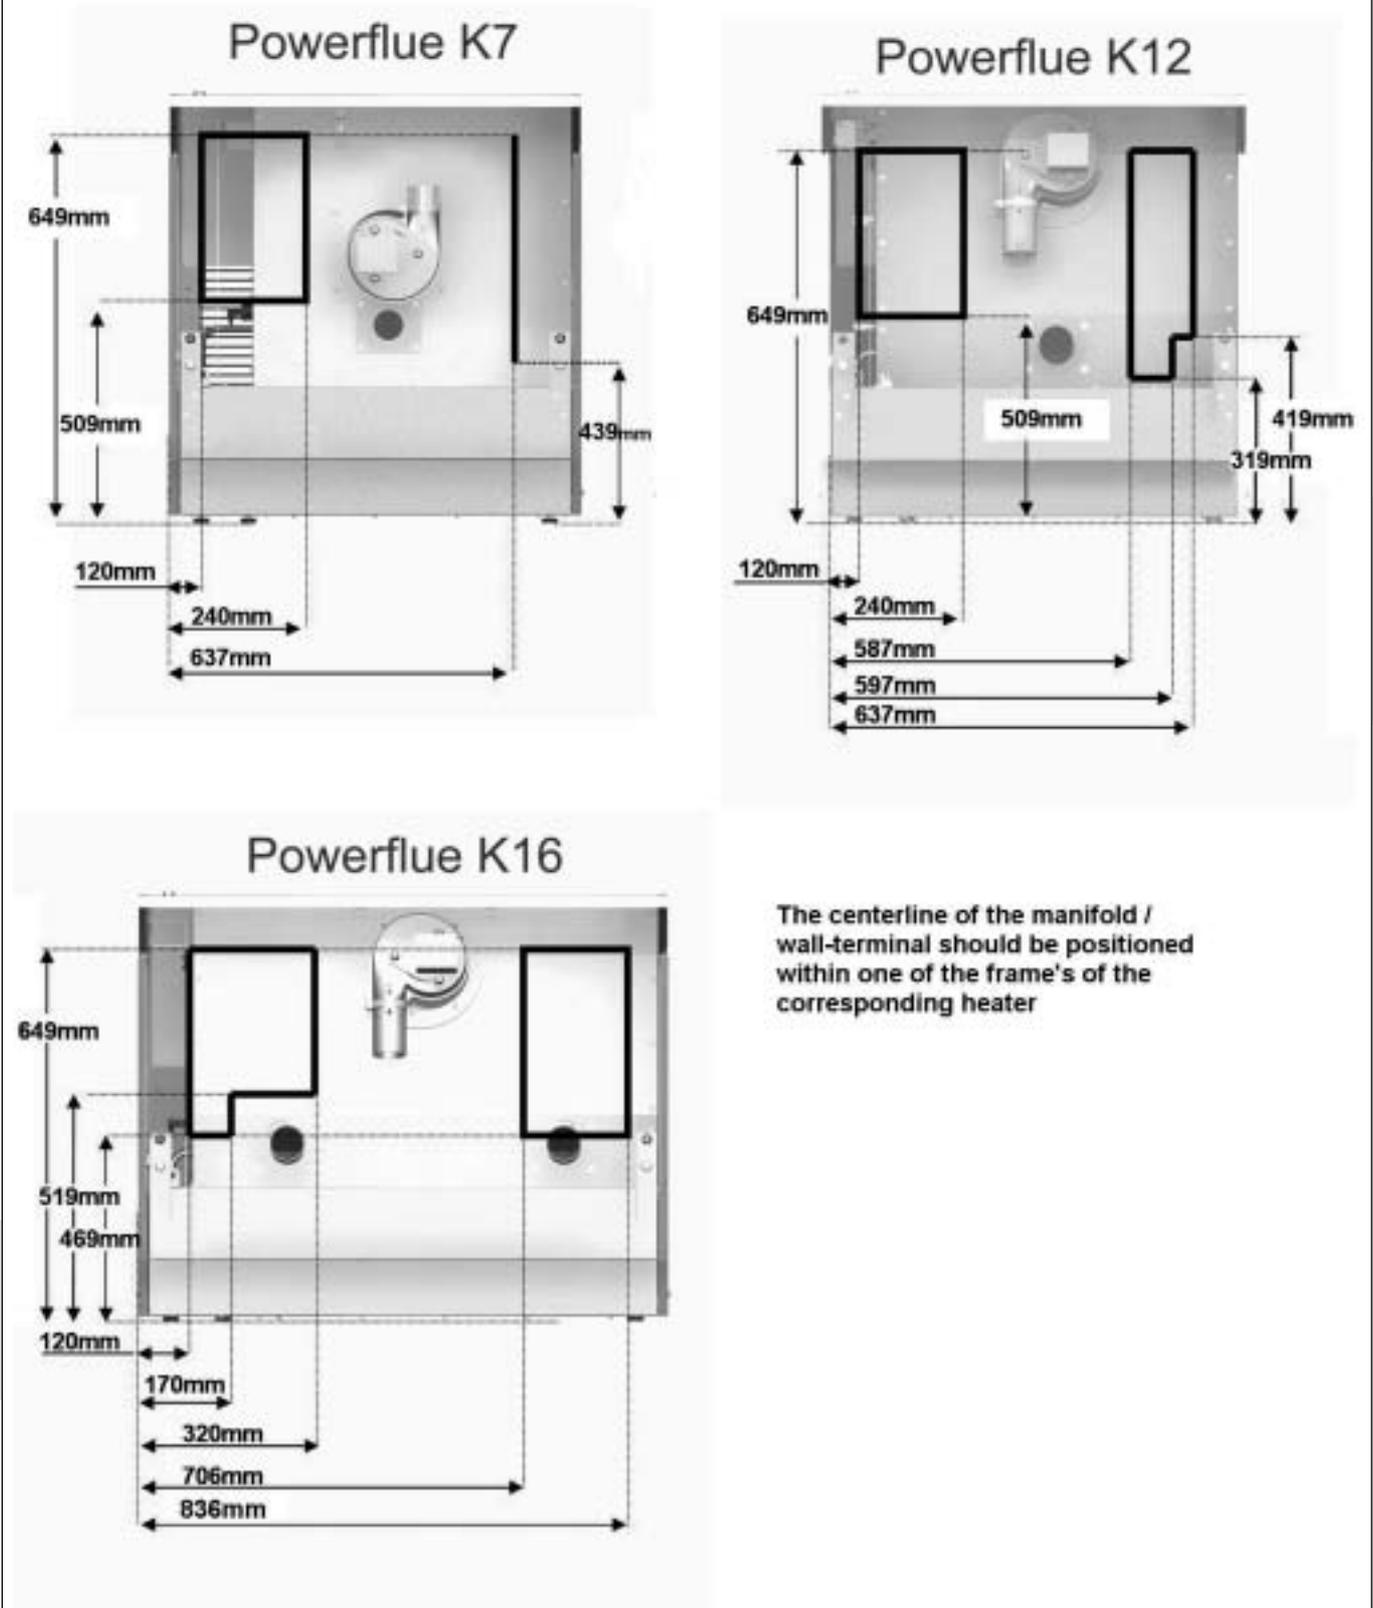

Fig. 3a
**!Tip** Determine the position of the appliance and the connections by using the dimensions in fig. 3a and 3b.